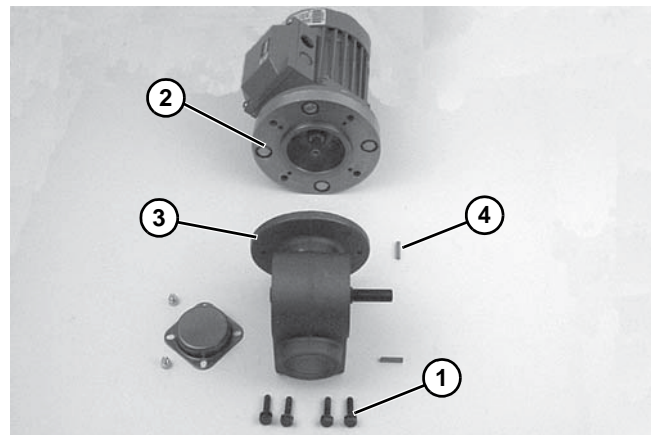

Figure 30
4. Remove four bolts (Figure 30, item 1). Detach motor (Figure 30, item 2) from gear reducer (Figure 30, item 3). Retain motor output shaft key (Figure 30, item 4).